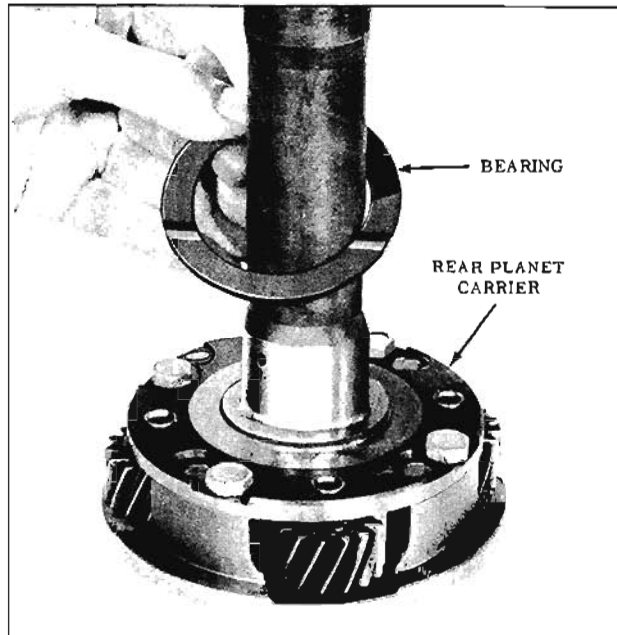

Fig. 6-42 Thrust Bearing
5. Remove the thrust bearing from the rear unit carrier assembly. (Fig. 6-42)